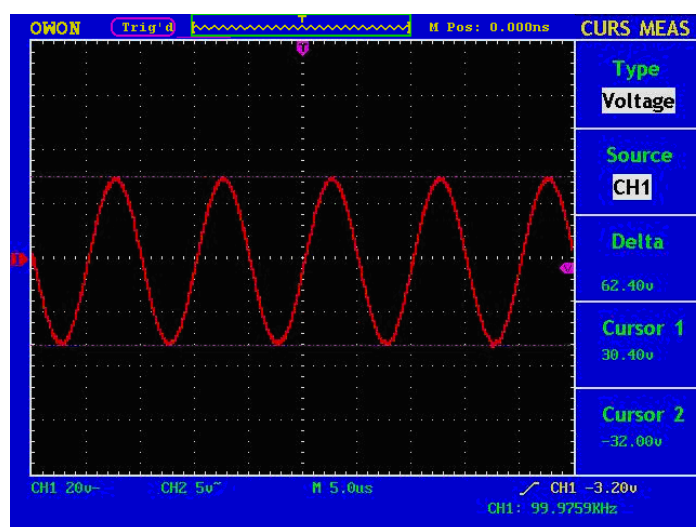

Fig.71 Waveform of Voltage Cursor Measurement
- Press **F2** to select **CH1** as the **Source**. The results are shown on the screen. (see **Fig.71**).